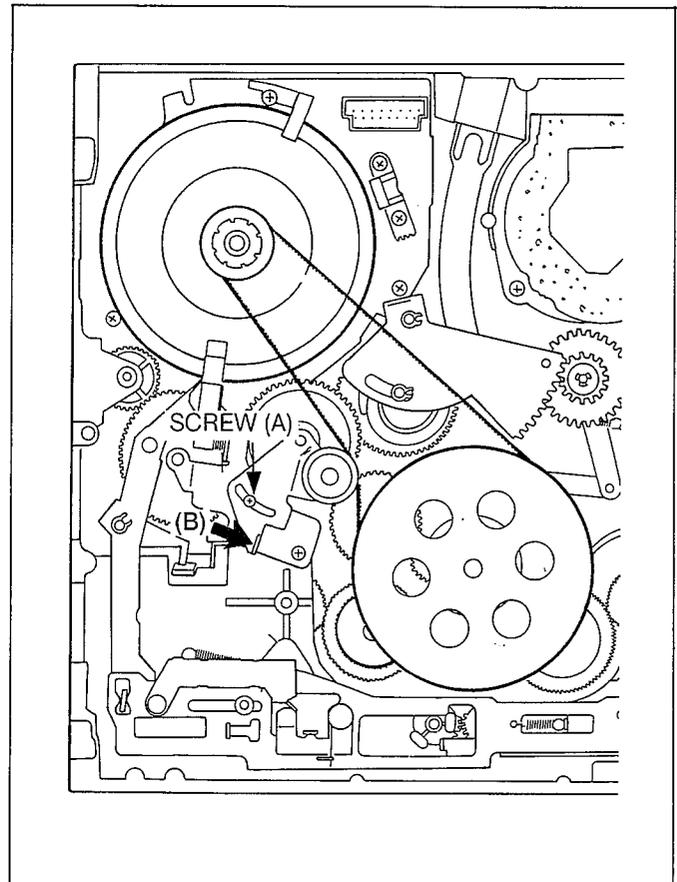

Fig. M1
1. Loosen a screw (A) slightly by using the screwdriver.
2. Set the Fan Type Tension Gauge to the direction indicated by the arrow (B) as shown in Fig. M1.
3. Tighten a screw (A) when the reading of the Fan Type Tension Gauge becomes within 40  $\pm$  5g.